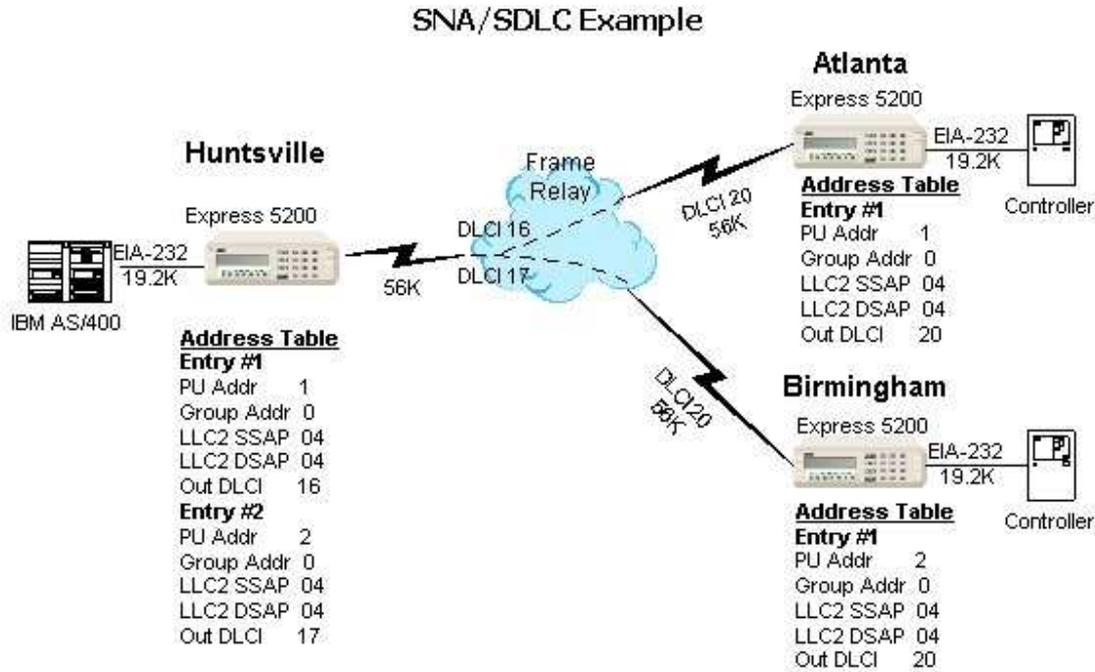
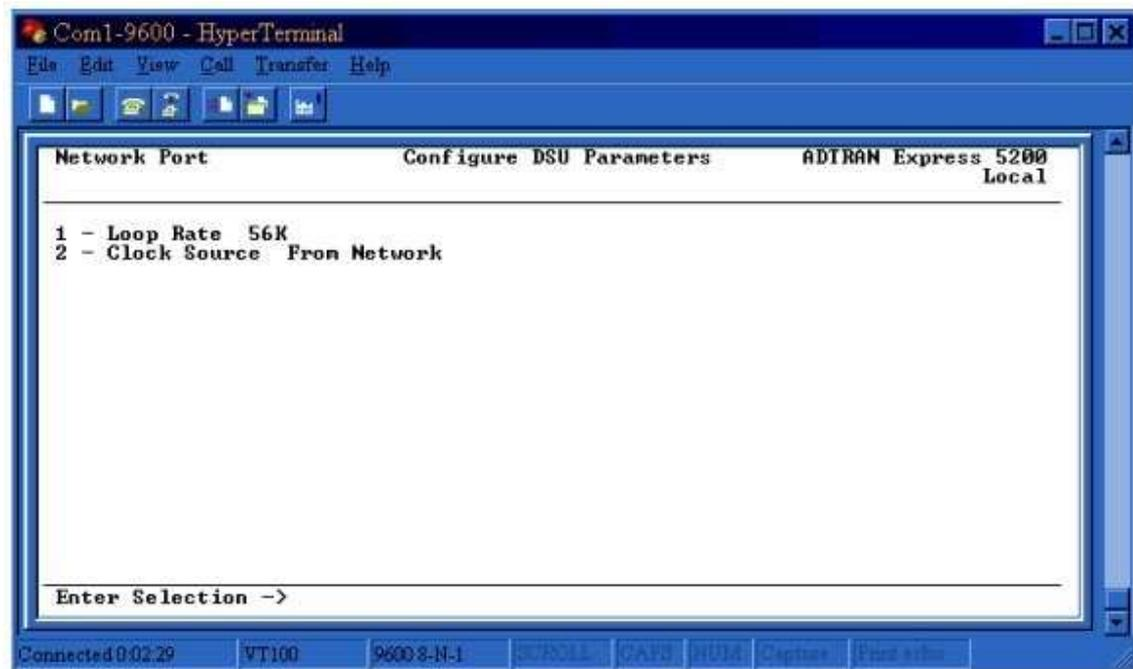
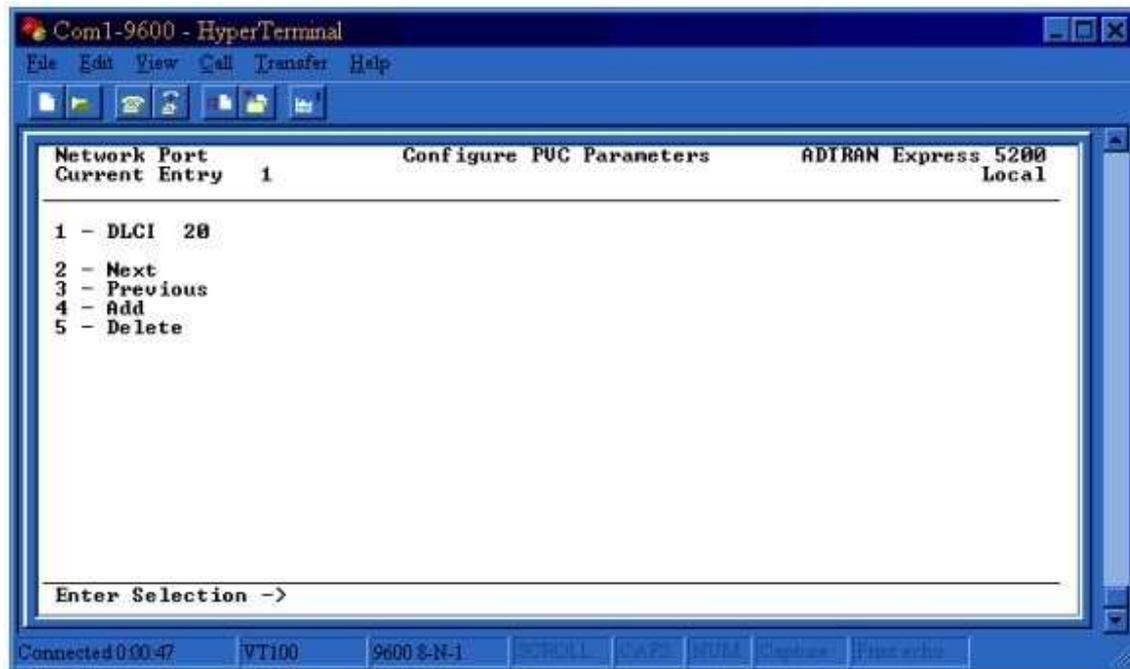
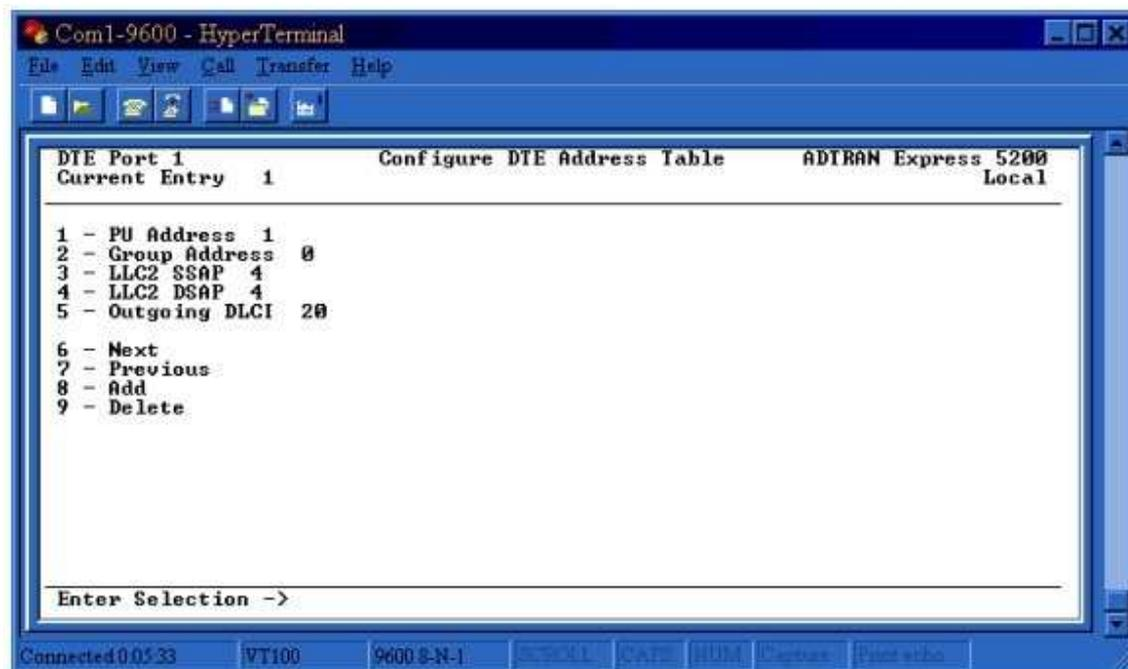

Figure 1
Figure 5
Figure 15
Figure 16
The following ADTRAN products are capable of performing this SDLC application: FSU, FSU 5622, Express 5110, Express 5200, Express 5210. For the purposes of this technical note, we will be using the Express 5200 in our example network shown in Figure 1. The example network consists of a host AS/400 and two remote controllers, using an Express 5200 at each location for connectivity to the 56K frame relay lines.
3. Enter 1 and press <enter> to select **Physical Layer Options**. Select the appropriate rate for the frame relay line, either 56K or 64K. For the example network in Figure 1, we will be using 56K. The **Clock Source** option should remain as *From Network* to take timing from the frame relay line. See Figure 5.
8. Enter 2 and press <enter> to select **Physical Layer Options**. Select the appropriate **Interface Type** and **Bit Rate**. For the example network in Figure 1, we will be using EIA-232 and 19.2K. **TD Clock Source** should remain as *Internal* unless the AS/400 is configured to provide timing. **Transmit Idle Code** should remain as *Flags* unless the AS/400 is configured to expect ones for its idle code. **Hardware Flow Control** should always be *On* since the AS/400 relies on the RTS and CTS leads for flow control.
According to the network diagram in Figure 1, both remotes are using DLCI 20 to communicate with the host. Therefore, the **DLCI** field under **PVC Options** should be 20 for both the Atlanta and Birmingham units. See Figure 15.
The host unit had two entries in the **Address Table** because there were two PVCs. However, each remote unit will only have one entry in the **Address Table** because each remote site has only one PVC. According to the network diagram in Figure 1, the following values should be used in the **Address Table** for the Atlanta remote. See Figure 16.